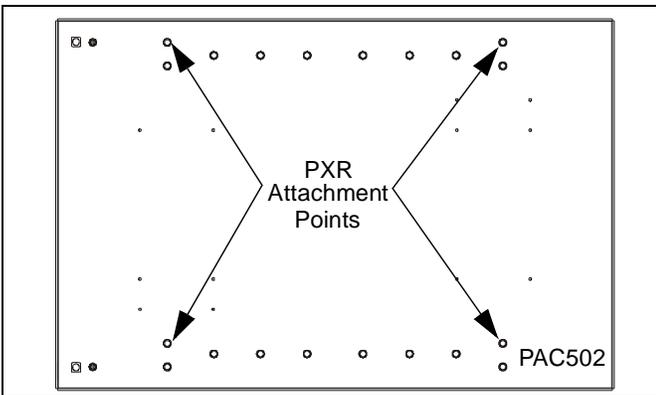

Figure 16
1. Align mounting holes at top of PXR with two mounting holes in PAC502. (See Figure 16)